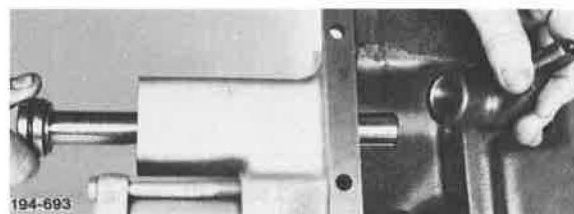

Figure 269. Installing Shift Rail and Shifter
19. Slide reverse shift rail into shift cover and, at the same time, install reverse shifter. See Figure 269.